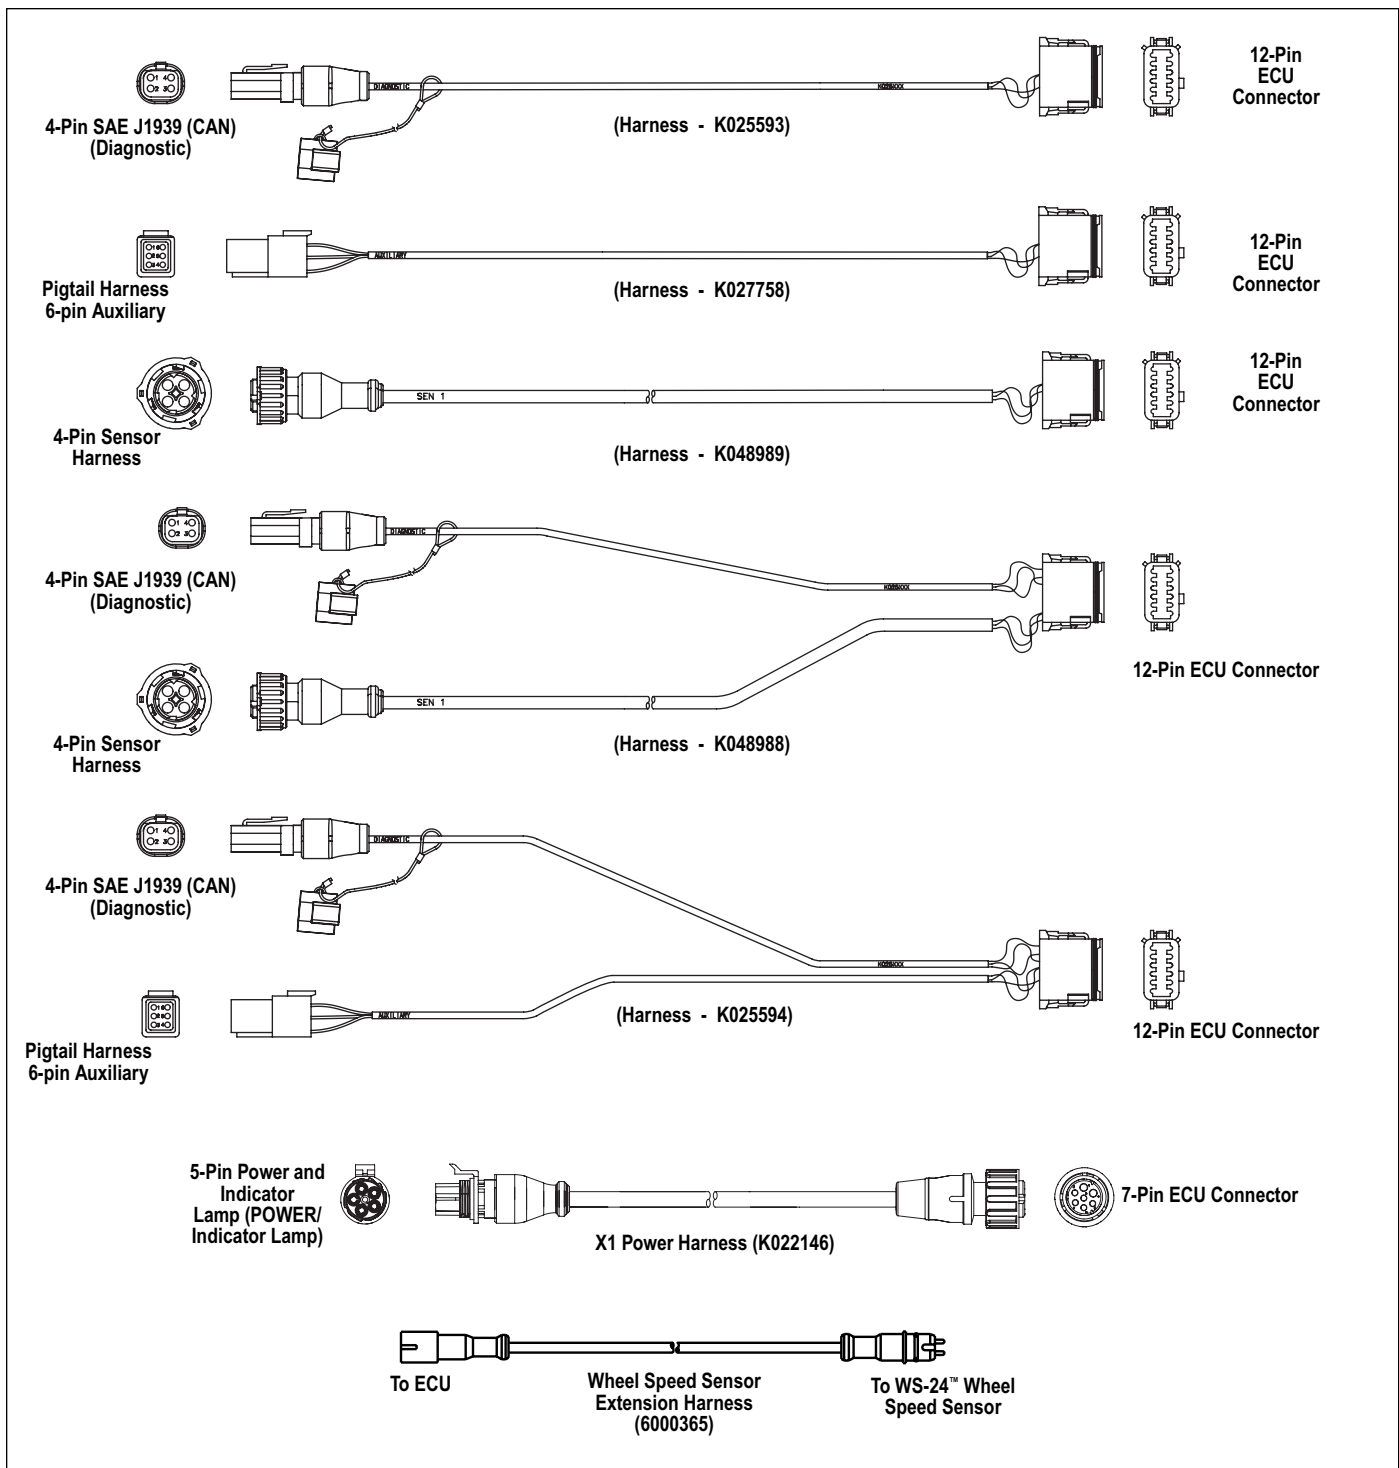

FIGURE 5 - EXAMPLES OF PIGTAIL WIRE HARNESSES
- **Pigtail Wiring Harness:** A power pigtail harness is required. Auxiliary harnesses are available, as needed. See Figure 5.
See Figure 5. Several pigtail wire harnesses are available to connect the TABS-6 Advanced MC module with other trailer system components. Pigtail harnesses are weather-sealed at the connector interface and are clearly labeled for proper installation. Because of the over-molded design of the wiring harnesses, Bendix recommends that if damage or corrosion occurs, the complete harness be replaced.
See Figure 5.